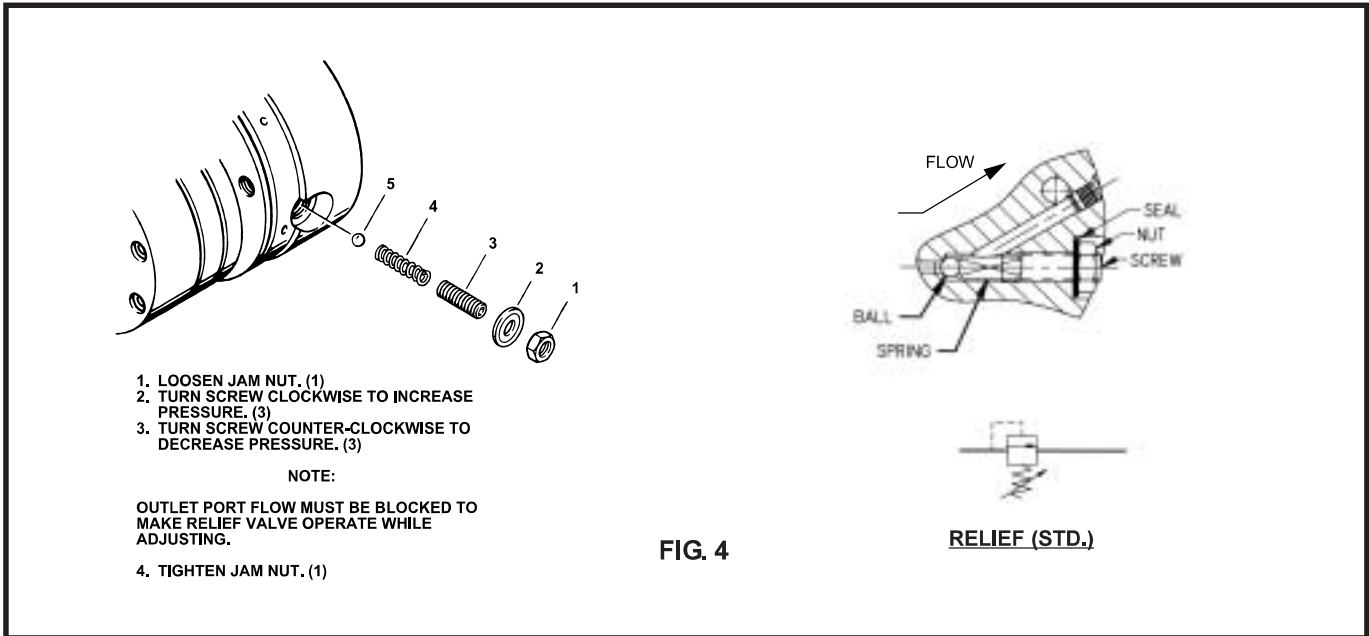

FIG. 4
1. Internal Cavity with Loose Components. (See Fig. 4 & 5).
- a. Turn relief valve adjusting screw counterclockwise using a gauge, tee'd into the high pressure line, to record the proper pressure setting. (See Fig. 4 & 5). In style shown in Fig 4 loosen jam nut. In style shown in Fig 5 remove flush plug.